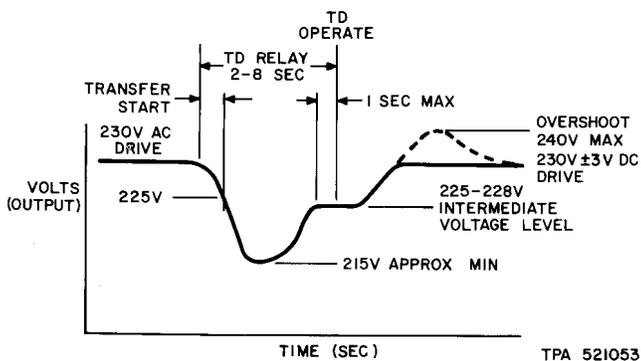

Fig. 11—Illustration Showing Change in AC Output Voltage VS Time During Transfer From AC to DC Drive
5 seconds to 1 minute, if necessary, to stabilize the ac output voltage from the motor-alternator before the TD relay operates (see Fig. 11).
- (23) Adjust the dc motor-speed of the regular motor-alternator by restrapping the five sections of the R1 and R2 resistors and if necessary, by readjusting the TD relay setting. Refer to Fig. 11 for additional information. Move the dc motor controller P3 and P9 leads on the R1 and R2 resistors and readjust the TD relay in accordance with Table B.
Note 1: The TD relay setting and the resistance between terminals P3 and P9 of the R1 and R2 resistors must be adjusted so that the ac output voltage from the motor-alternator is stable at approximately 225 volts before the TD relay operates. The setting of the TD relay may be extended from 5 seconds to 1 minute, if necessary, to stabilize the ac output voltage from the motor-alternator before the TD relay operates (see Fig. 11).